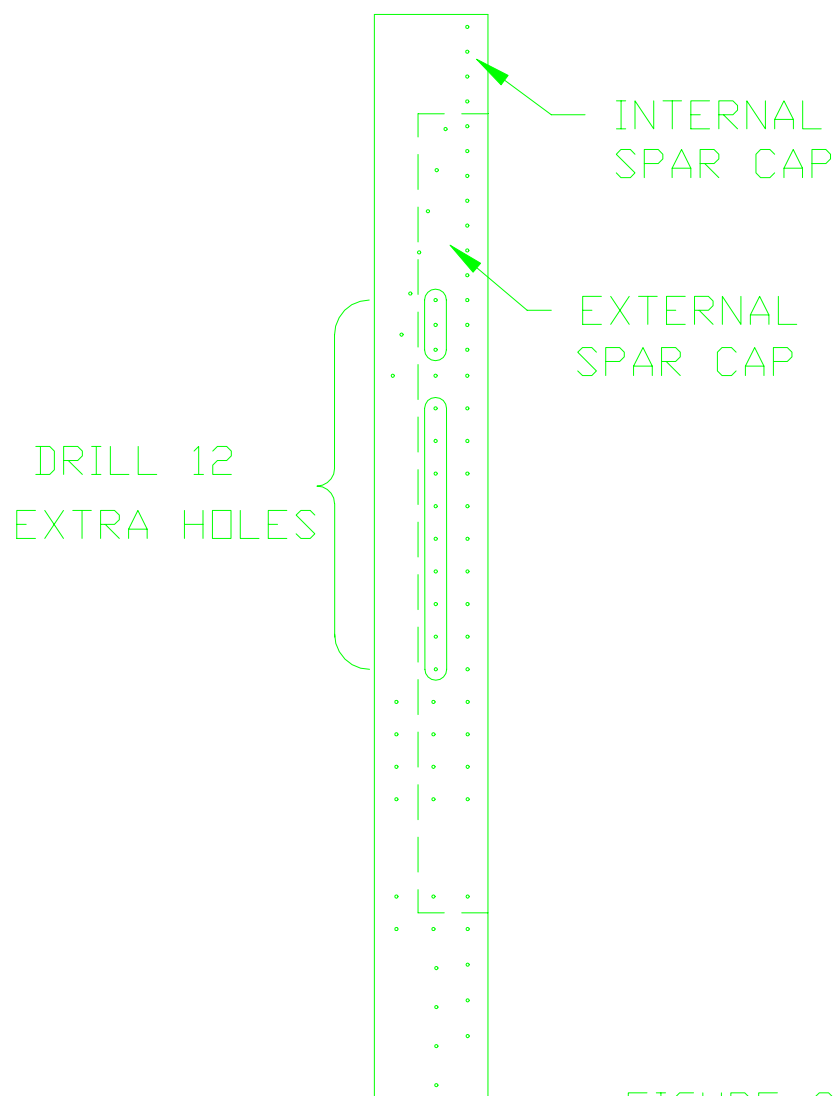

FIGURE 35
- 113) Position the external spar cap under the internal spar as in Figure 35. Drill.